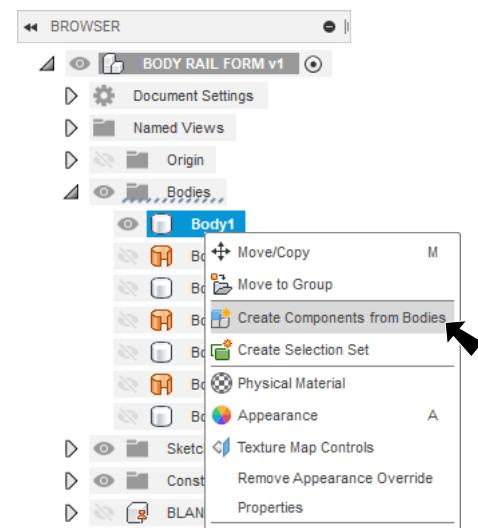

Fig. 2
Step 4. Expand **Bodies** in the Browser, right click **Body1** and click **Create Components from Bodies**, Fig. 2.